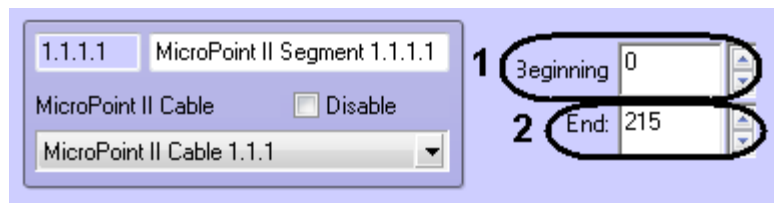

Fig. 3.5—4 Configure the *MicroPoint II* control segment
2. In the **Beginning:** field using **up-down** buttons enter the number of subcell corresponding to the key point in which the control segment started (Fig. 3.5—4, 1).
3. In the **End:** field using up-down buttons enter the number of subcell corresponding to the key point in which the control segment finished (Fig. 3.5—4, 2).